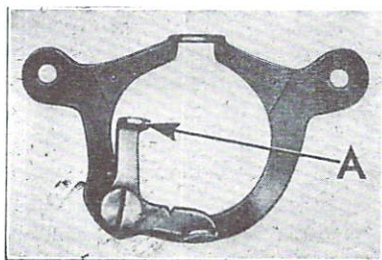

Fig. 69
Bobbin case latch should be about $1/32$ " from the bobbin case at point "A" (Fig. 69). If it is too tight against the bobbin case, the loop of thread on its way to completing the stitch will be caught between point (A) and the bobbin case, causing loose under stitch or breaking of thread.